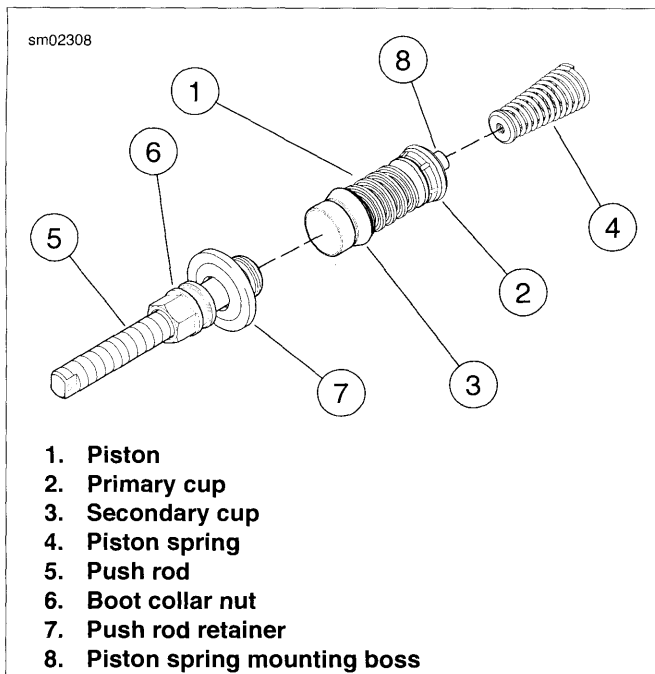

Figure 2-83. Rear Master Cylinder Piston, Push Rod and Spring Assembly
4. See Figure 2-83. Lubricate master cylinder bore, **new** piston (1) with **new** secondary cup (3), and **new** primary cup (2) with *CCI #20 BRAKE GREASE* supplied in the service parts kit.